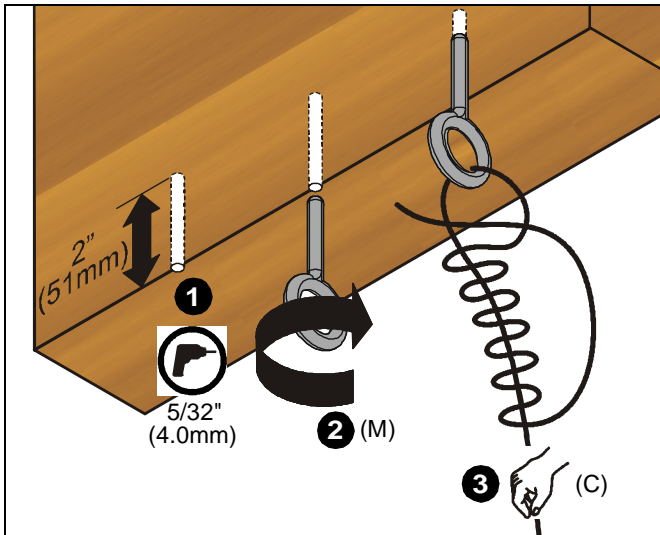

Figure 7
1. Drill 5/32" (4.0mm) diameter x 2" (51mm) deep hole at each of the four marked wire anchor support locations. (See Figure 7) Remove debris from holes.
2. Fully thread 1-5/16" eye lag screws (M) into each of the four holes. (See Figure 7)
3. Cut the 20' (6.1mm) support wire (C) into four pieces of equal length and insert support wire (C) through eye lag (M). Twist wire tightly around itself at least four complete turns, and then thread loose end between eye and first turn. (See Figure 7) Repeat for three remaining support locations.